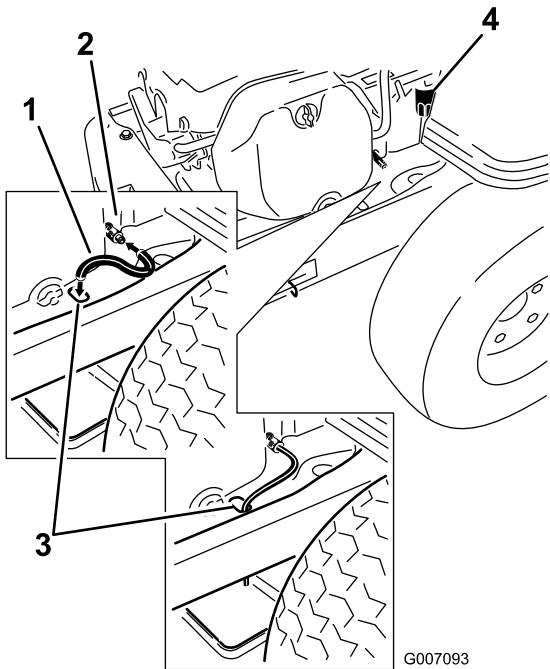

Figure 31
- Clean the area around the drain valve and on the machine frame. Locate the oil drain hose and slide it over the drain valve (Figure 31).
- Place the opposite end of the oil drain hose through the drain hole in the frame (Figure 31).